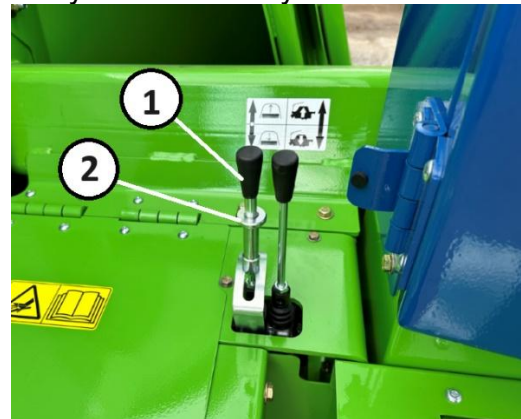

Figure 75. Tunnel Cleanout Lever
10. Lift the safety collar at the lever and pull the lever back to the neutral position. See Figure 75.